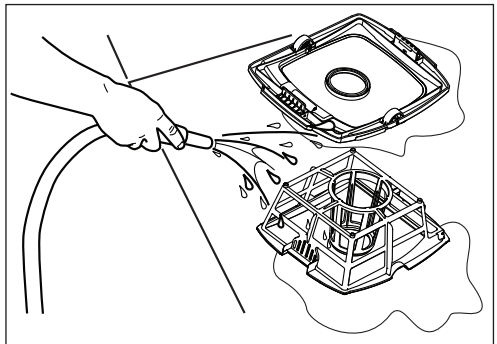

Figure 11. Rinse the Filter Canister
7. Using a hose with clean water, rinse the filter canister and lid to remove all debris (Figure 11).